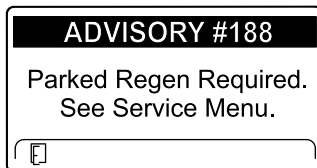

Figure 55
- Parked regeneration required ADVISORY #188 (Figure 55)